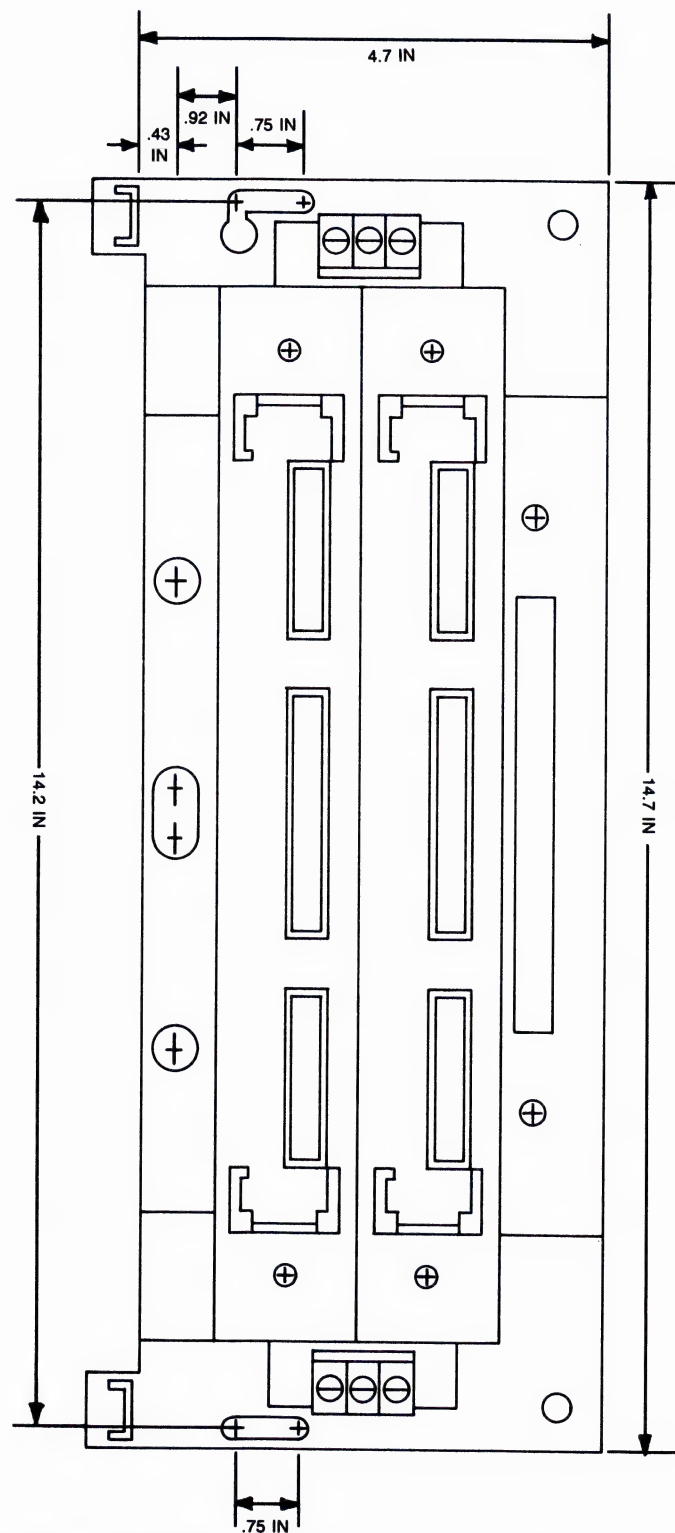

Figure 7-12 Mounting Dimensions for Adapter Base Assembly (500-5840)
12. Insert the Power Supply Module and the P/C module in the appropriate slots (see Figure 7-12).